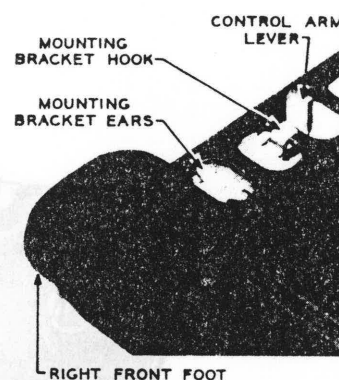

Fig. 17 — Mounting Bracket
- (1) Remove left gong.
- (2) Place mounting bracket on set base. Be sure hook and ears are in place (Fig. 17) before securing mounting screw.